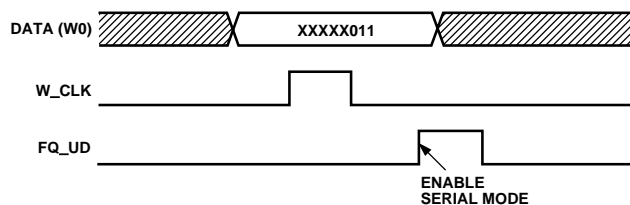
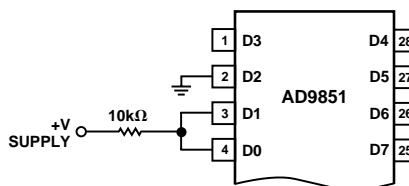
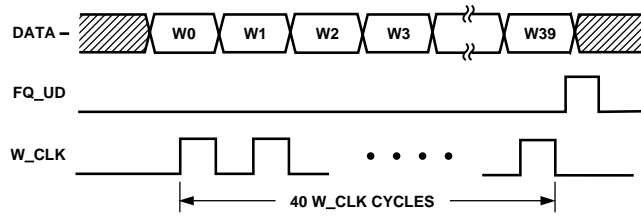

Figure 17. Serial-Load Enable Sequence
Figure 18. Hardwired xxxxx011 Configuration for Serial-Load Enable Word W0 in Figure 17
Figure 19. Serial-Load Frequency/Phase Update Sequence
In serial load mode, forty subsequent rising edges of W_CLK will shift and load the 1-bit data on Pin 25 (D7) through the 40-bit register in “shift-register” fashion. Any further W_CLK rising edges after the register is full will shift data out causing data that is left in the register to be out-of-sequence and corrupted. The serial mode must be entered from the default parallel mode, see Figure 17. Data is loaded beginning with W0 and ending with W39. One note of caution: the 8-bit *parallel* word (W0)—xxxxx011—that invokes the serial mode should be overwritten with a valid 40-bit serial word immediately after entering the serial mode to prevent unintended engaging of the 6 \times REFCLK Multiplier or entry into the factory test mode. Exit from serial mode to parallel mode is only possible using the RESET command.
*This bit is always Logic 0 unless invoking the serial mode (see Figure 17). After serial mode is entered, this data bit must be set back to Logic 0 for proper operation.
Entry to the serial mode, Figure 17, is via the parallel mode which is selected by default after a RESET is asserted. One needs only to program the first eight bits (word W0) with the sequence xxxxx011 as shown in Figure 17 to change from parallel to serial mode. The W0 programming word may be sent over the 8-bit data bus or hardwired as shown in Figure 18. After serial mode is achieved, the user must follow the programming sequence of Figure 19.
Note: After serial mode is invoked, it is best to immediately write a valid 40-bit serial word (see Figure 19), even if it is all zeros, followed by a FQ_UD rising edge to flush the "residual" data left in the DDS core. A valid 40-bit serial word is any word where W33 is Logic 0.